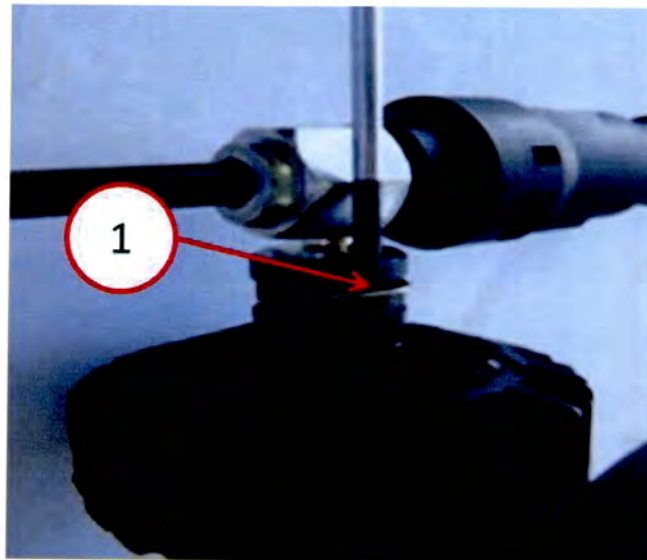
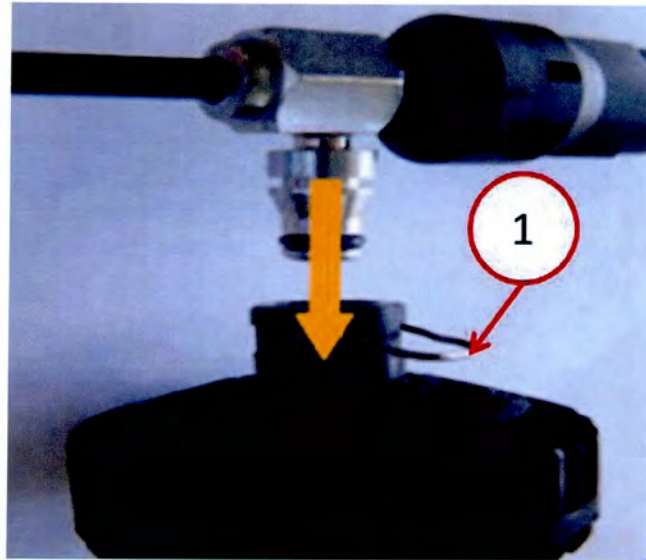

Fig. 4 Clutch Damper
Fig. 5 Clutch Damper
4. Rotate damper so you can see the damper retaining clip (Fig. 4).
5. Pull the retaining clip out to the stop and remove the damper and discard (Fig. 4) and (Fig. 5).